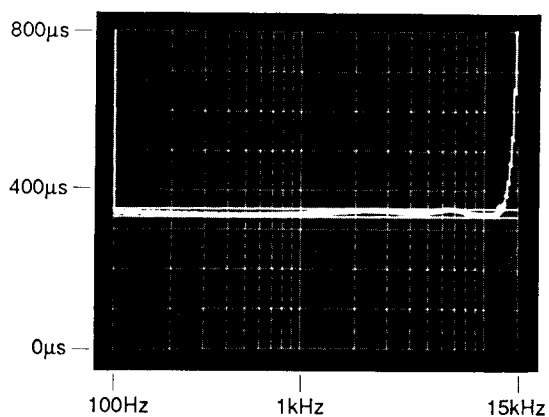

Fig. 1-4: Group Delay vs. Frequency
1-5	Fig. 1-4: Group Delay vs. Frequency
- Group delay equalization of low-pass filters to minimize overshoots (see Fig. 1-4).